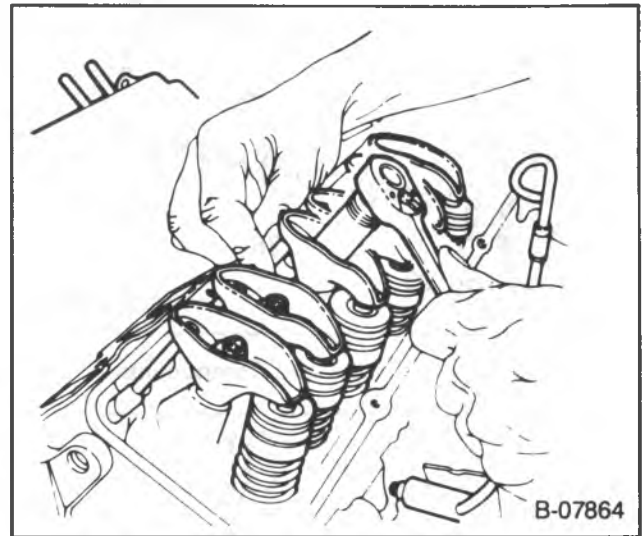

Figure 4 — Adjusting the Valves
4. Back out the adjusting nut until lash is felt at the pushrod, then turn in the adjusting nut until all lash is removed. This can be determined by rotating the pushrod while turning the adjusting nut (figure 4). When the play has been removed, turn the adjusting nut inward one full additional turn (to center the lifter plunger).